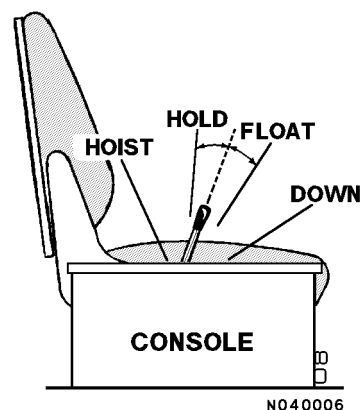

FIGURE 3-1. HOIST LEVER POSITIONS
4. Move the lever to the HOIST position. Refer to Fig. 3-1. Releasing the lever while in the HOIST position will cause the lever to move to the HOLD position.